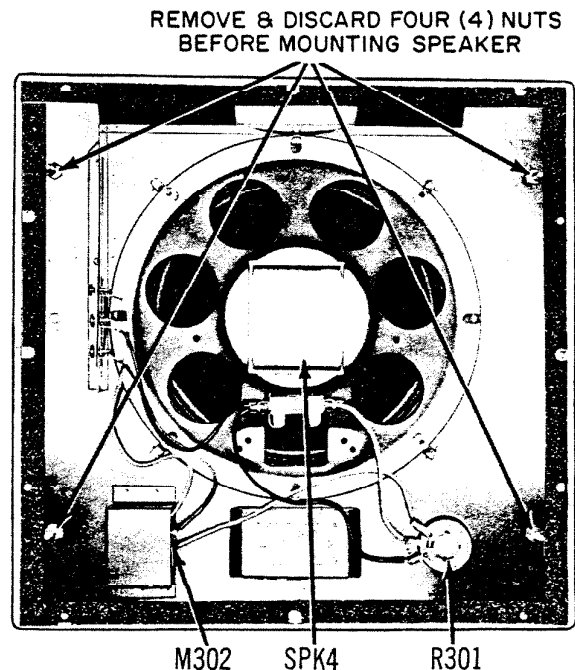

Fig. 10. Rear view of Model 2020 remote speaker station.
1. Remove and discard four nuts from mounting screws (Fig. 10) which secure the finished frame to the speaker plate (see instruction label on finished frame). Remove the four mounting screws and frame from the speaker plate.